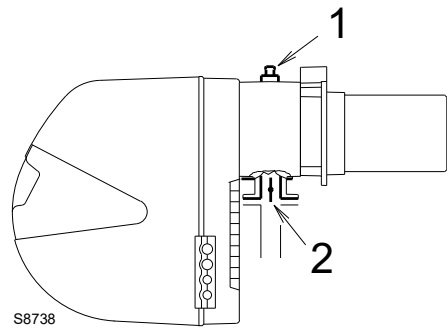

Fig. 24
Gas pressure measured at the test point 1)(Fig. 24), with:
Pressure loss at gas butterfly valve 2)(Fig. 24) with maximum opening: 90°.
- Subtract the combustion chamber pressure from the gas pressure measured at test point 1)(Fig. 24).
To know the required gas pressure at test point 1)(Fig. 24), set the maximum output required from the burner operation, then:
- Read, on the right (column 1) the socket pressure 1)(Fig. 24).
gas pressure at test point 1)(Fig. 24).